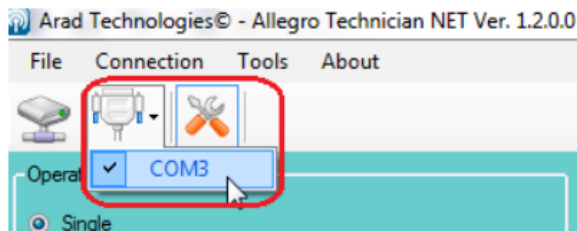

Figure 5
2. Be sure to choose the correct “**Comm Port**” inside the software as shown in *figure 5* below;